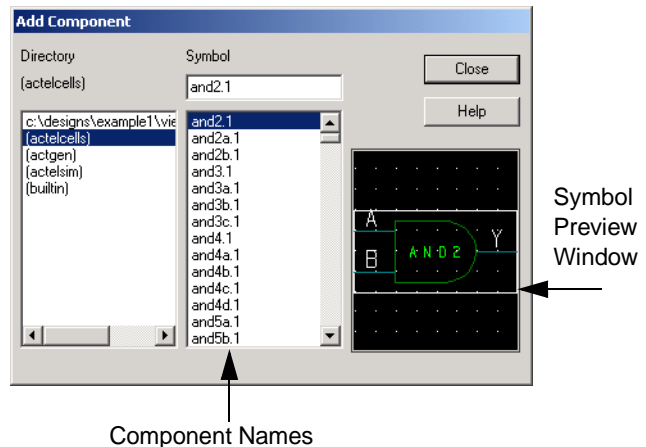

Figure 5-16. Add Component Dialog Box
1. **From the Add menu, click *Component* or click the *Component* toolbar button.** The Add Component dialog box appears, as shown in Figure 5-16.